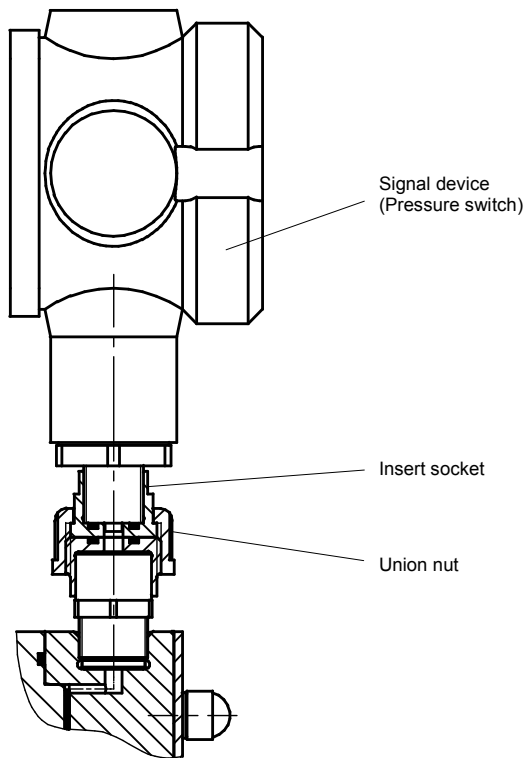

Fig. 42
- Release union nut and remove the signal device (see Fig. 42/43).